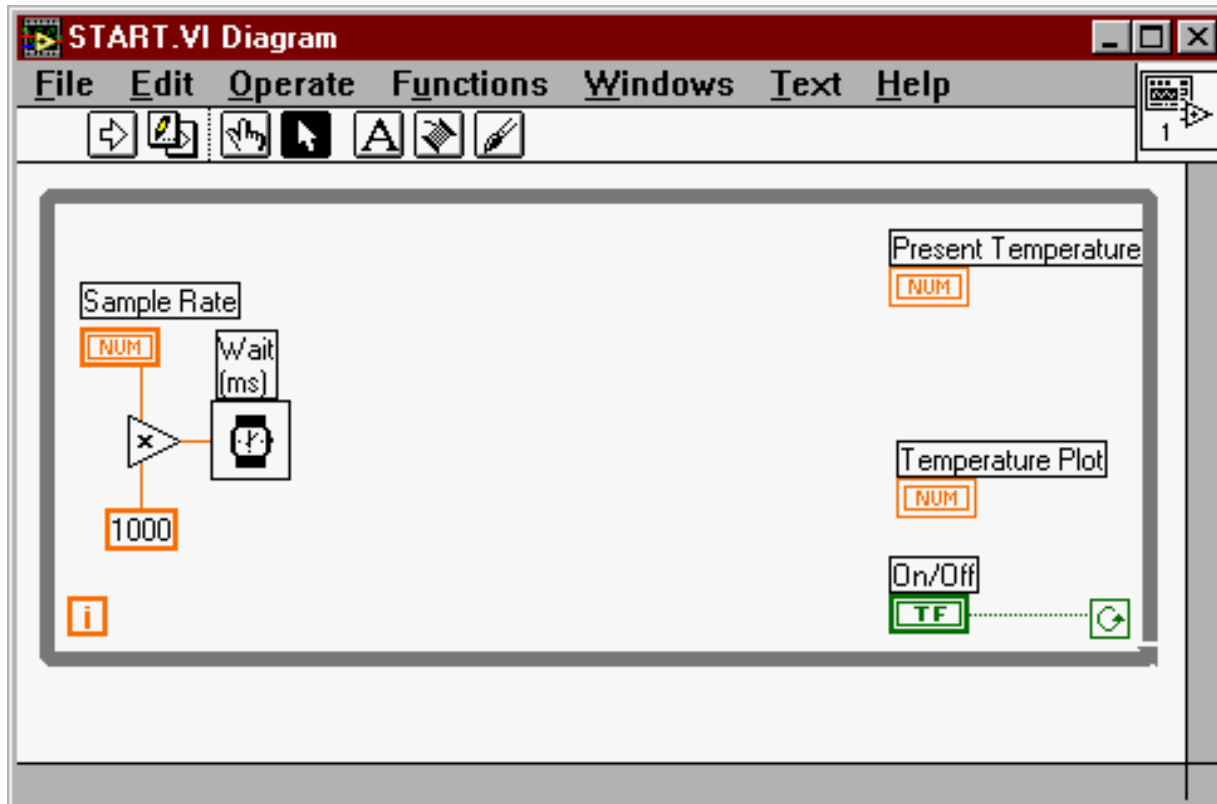

Figure 5 : The Delay
- Position the items as shown in Figure 5 and wire them as shown using the wiring tool. The timer will now delay repeated execution of the loop by 1000 times the setting of the sample rate knob on the front panel.(in ms).